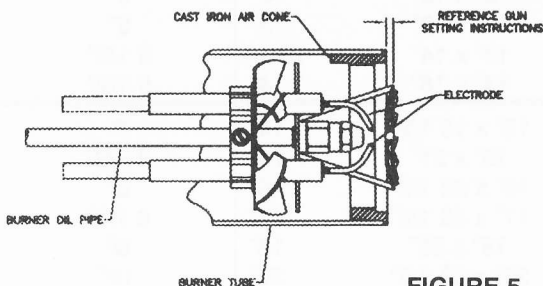

FIGURE 5
(A) Selecting firing rate desired. (B) Install proper nozzle for appliance (see paragraph under "Nozzle and Air Cone Selection" page 3). (C) For model EHA and EH burners make gun adjustments per firing rate (see Figure 5, page 6). Note: the EHASR guns are permanently set and not adjusted with changing rates (see Figure 6, Page 6). (D) Fire burner, adjust interlocking air bands for yellow tips above combustion chamber. (E) Record CO2 and smoke. If CO2 is low, adjust gun setting back 1/32" and repeat CO2 and smoke test. Continue this adjustment until desired CO2 and smoke is obtained. Record stack temperature. (F) Check lighting with cold and hot chamber. (G) Lock all adjustment screws.